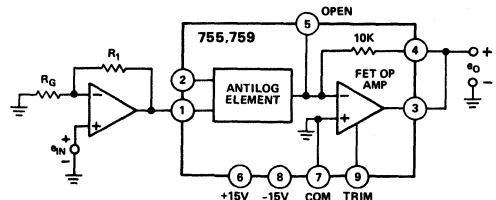

Figure 6. Method for Adjusting  $K < 2/3V$
**Scale Factor (K) Adjustment** – The scale factor may be adjusted for all values of K greater than 2/3V by the techniques described in the log section. If a value of K less than 2/3V is desired for a given application, an external op amp would be required as shown in Figure 6. The ratio of the two resistors is approximately: